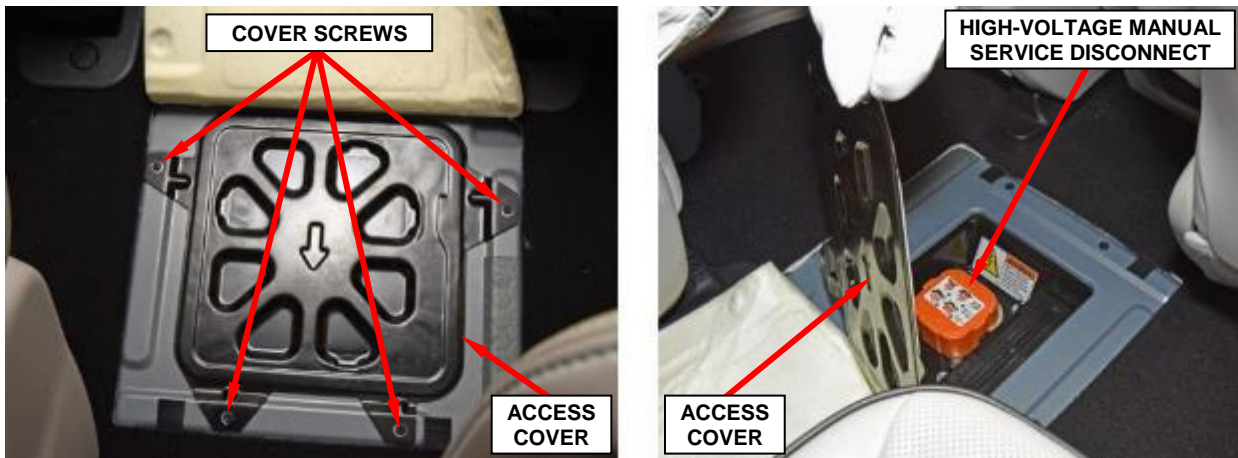

Figure 13 – High-Voltage Manual Service Disconnect Access Cover
- 5. Remove and save the four screws securing the high-voltage manual service disconnect access cover to the floor then remove and save the cover (Figure 13).
33. Reinstall the service disconnect (Figure 13).
34. Reinstall the service disconnect cover (Figure 13).